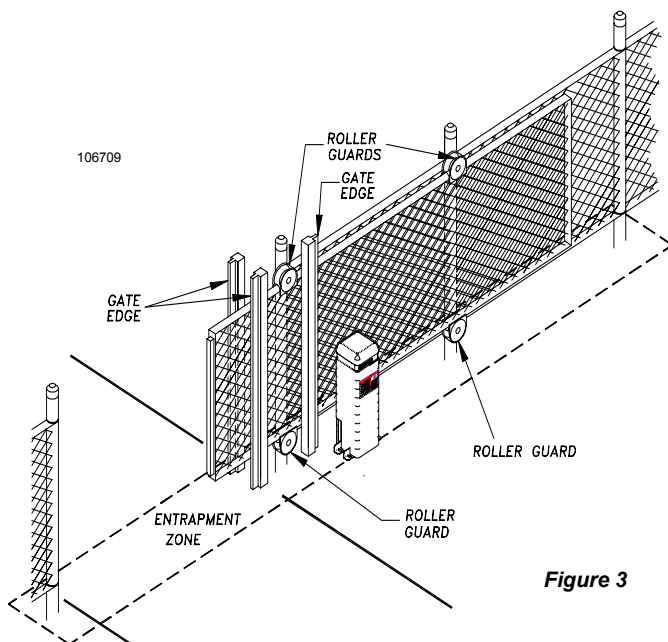

Figure 3
- Use the illustration at left (Figure 3) to minimize the risk of injury in your design of the slide gate operator system. **IDENTIFY THE ENTRAPMENT ZONES AND PINCH POINT AREAS IN YOUR GATE.** Design the gate installation to minimize the risk of entrapment in these areas. Install additional safety equipment such as four wire edges and photocells to further minimize risk. All entrapment zones are required to be protected.
- **Entrapment Zones:** Design in personal entrapment protection devices to protect people from entrapment in the zones shown in Figure 3 at left. Install vertical posts with gate edges attached on both sides of the gate to prevent body entrapment.
- **Pinch Points:** Use protective measures (guards, padded edges, etc.) to protect people from the pinch points shown in Figure 3. Attach roller guards in cantilevered gate systems to minimize the risk of hands being caught between the top of the gate and the roller.